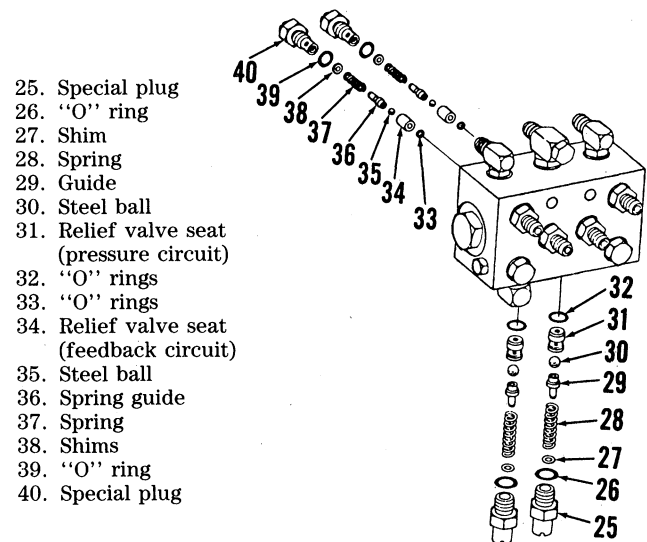
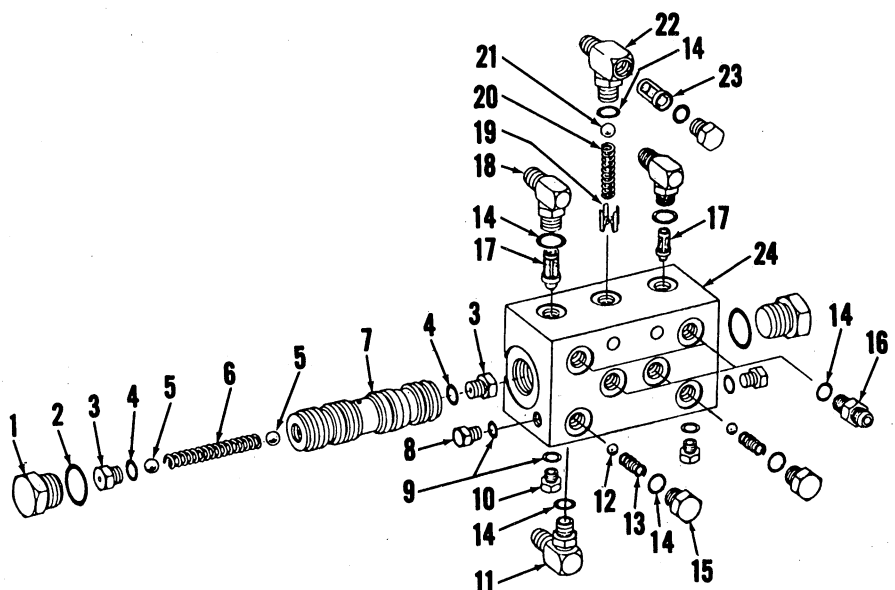

Fig. 36—Additional relief valves are installed in pressure and feedback circuits in steering control valve used on tractors with mechanical front-wheel drive.
Fig. 35—Exploded view of typical power steering control valve assembly. Additional parts are used on models with mechanical front-wheel drive (Fig. 36).
Steering control valve manual steering valves (3 and 5—Fig. 35) not seating.
Steering valve inlet check valve (21—Fig. 35) damaged.
Manual steering valves (3 and 5—Fig. 35) leaking.
Make-up oil valves (12—Fig. 35) leaking.
27. The steering valve, when actuated by the metering pump, directs pressurized hydraulic fluid to the steering motor to move the front wheels. The valve body (24—Fig. 35) contains a valve spool which controls direction of pressurized oil for right or left turns and also provides a “neutral” position. Check valves are located in the valve body to provide make-up oil for the control circuit to replace oil lost during steering operations and to trap oil in steering circuit to permit manual steering when pressurized oil is not available. On tractors equipped with mechanical front-wheel drive, the steering valve (Fig. 36) also contains relief valves in the pressure and return circuits to protect system against higher than normal pressures which sometimes occur with these units.
The steering valve is located in the engine compartment. It will not be necessary to remove the valve for some service such as cleaning filter screens (17—Fig. 35). The valve spool (7) and body (24) are available only as a matched set. Specific service to valve will depend upon difficulties encountered with the steering system.